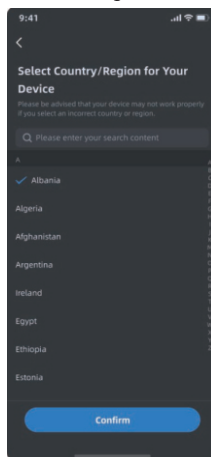

Figure 2
- 2)Figure 2: Select the country/region where the device will be used and click "**Confirm**".